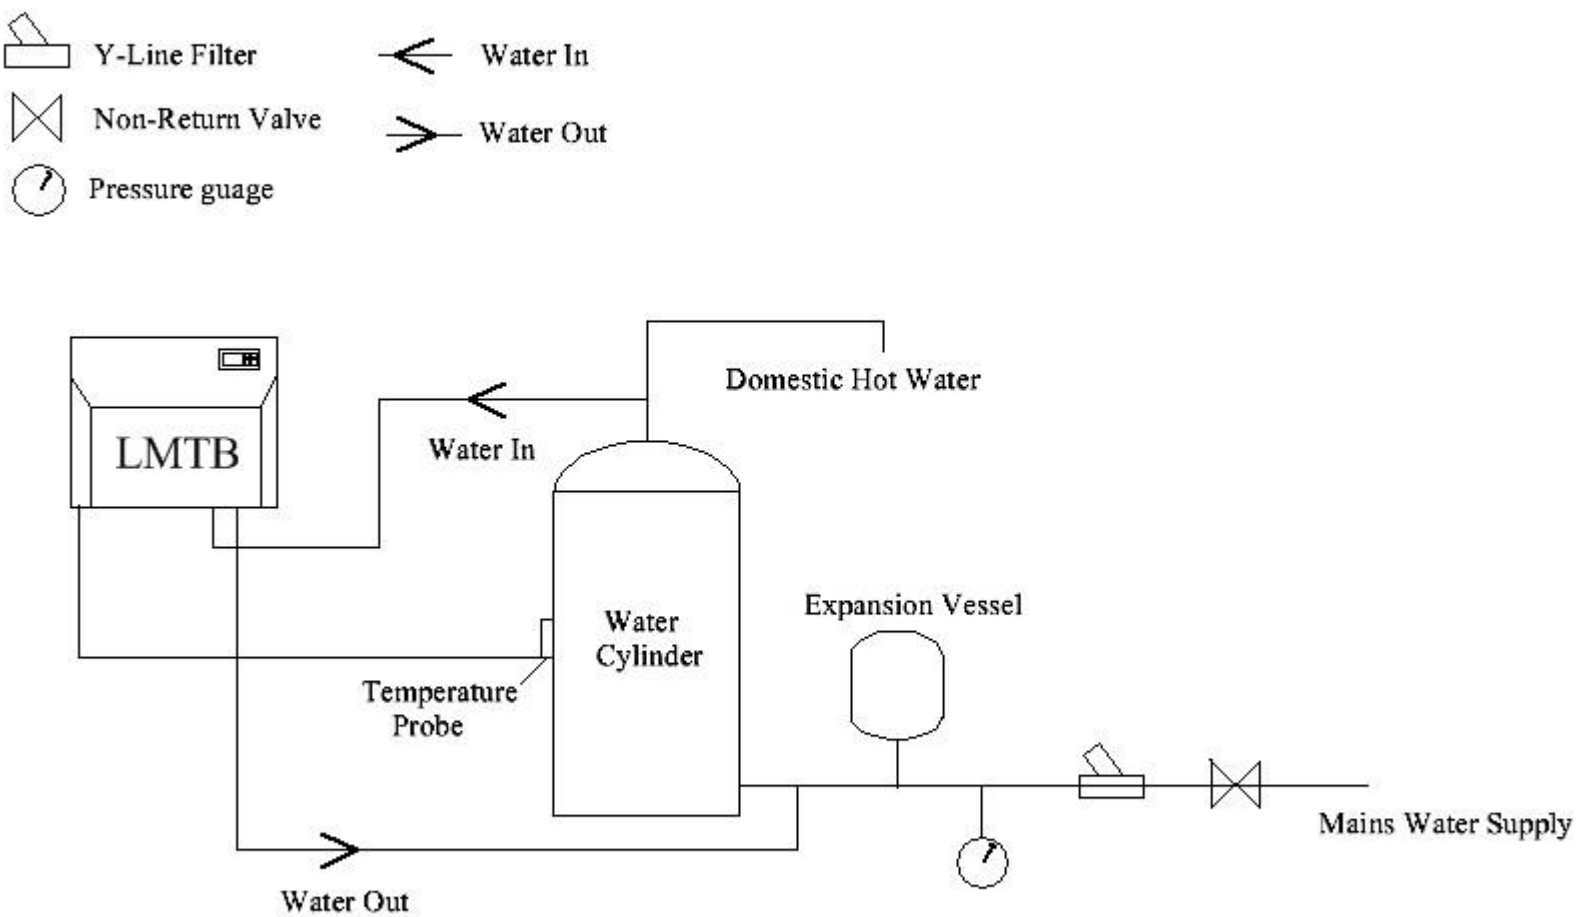

Fig. 9 Schematic of Unvented System
- *Water inlet and outlet connections of the cylinder should be connected as per the fig 9 and 10.*
- *Water inlet connection to the Little Magic Thermodynamic Box should always be connected to the first tapping point of the cylinder. (refer fig. 9 or 10)*
- *The installer should assemble the proper filter, pressure gauge, expansion vessel and safety devices according to the scheme showed in fig 9 and 10.*